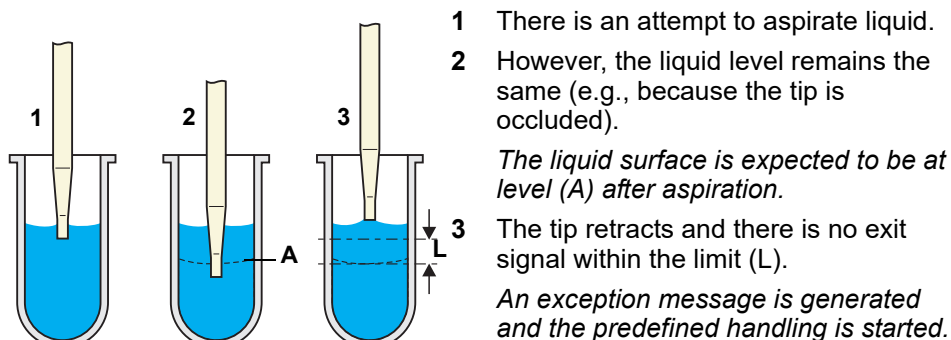

Fig. 3-48 Tip occlusion during aspiration
- A tip occlusion during aspiration causing insufficient volume aspiration (see Fig. 3-48 "Tip occlusion during aspiration", 3-51).